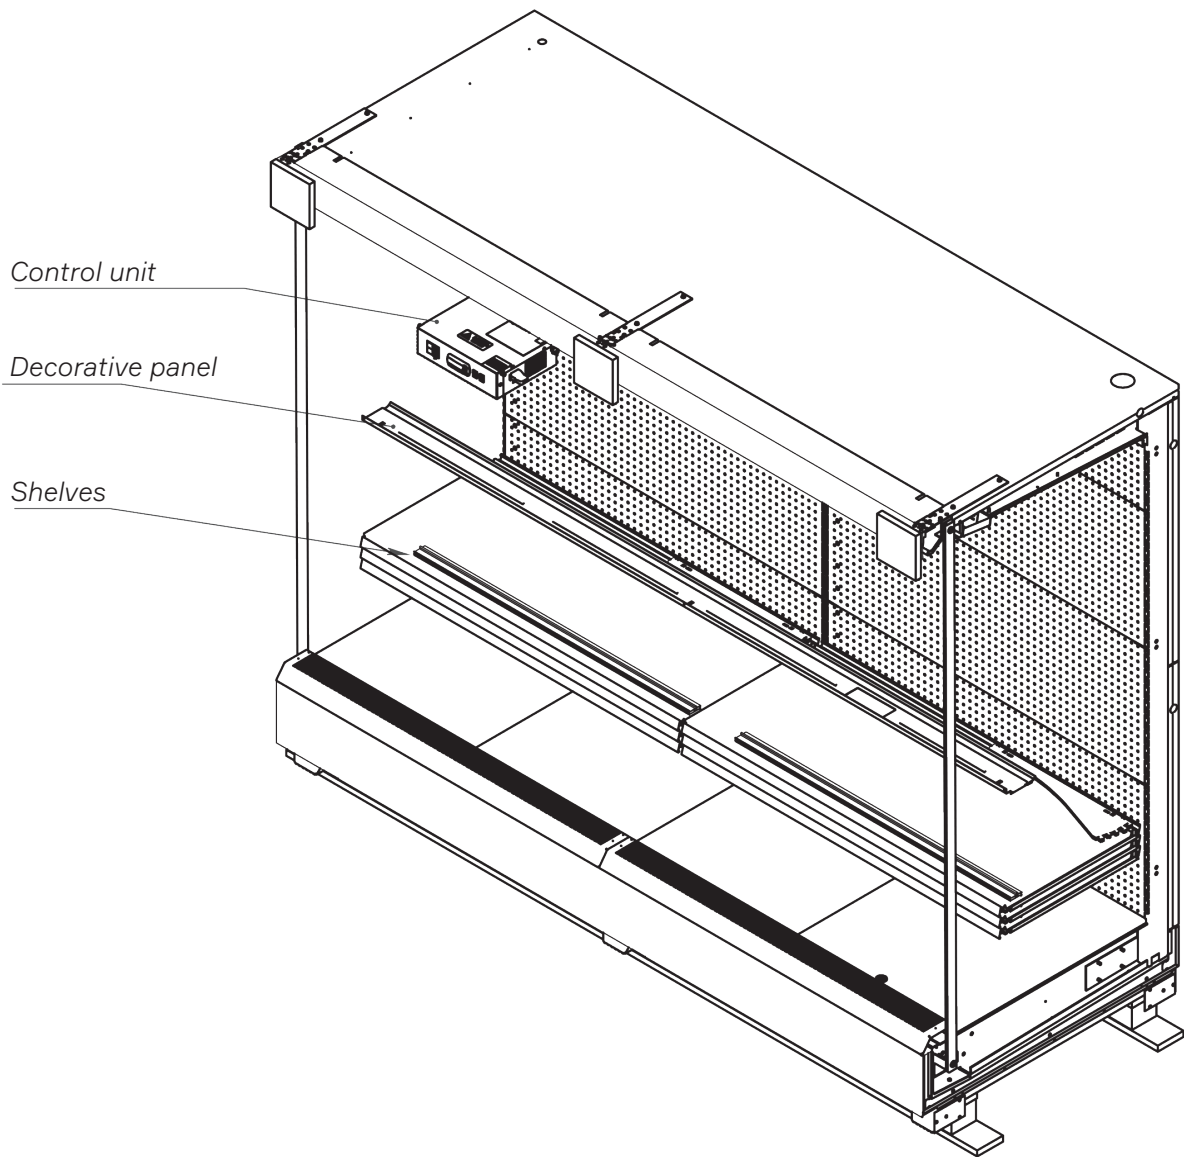

Fig. 10. Components of the multideck
- remove the components out of the multideck (Fig. 10);